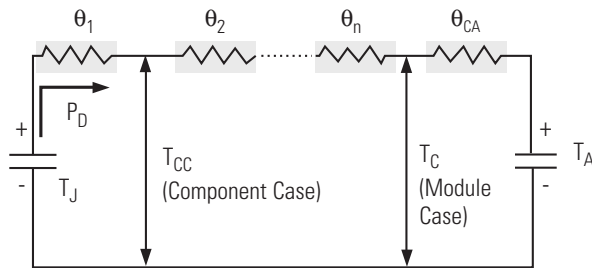

Figure 3 - Simplified Power Converter Thermal Model
The worst case operating temperature limits of the converter are set by the maximum junction temperature (T_J) ratings of the internal semiconductor (IC) components. The IC junction temperatures must not be exceeded or failure will occur. To prevent this, the converter designer calculates the maximum module case temperature by identifying the IC junction with the lowest temperature threshold. All thermal resistances from the IC junction to the module case are then identified. Figure 3 shows a simplified thermal model for a path such as this. Each of the thermal resistances shown produces an internal temperature drop.